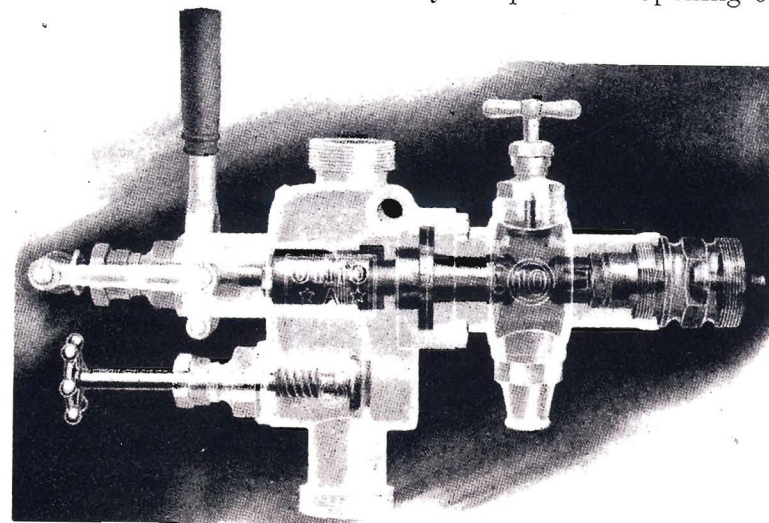

Fig. 5
18. Figures 5 and 6 show a phantom view and a sectional view of the Ohio injector. The operation of this type of injector is quite similar to that of the others which have been described. However, the shape and design of the tubes is somewhat different. The Edna Brass Company manufactures a lifting injector quite similar to those already described.